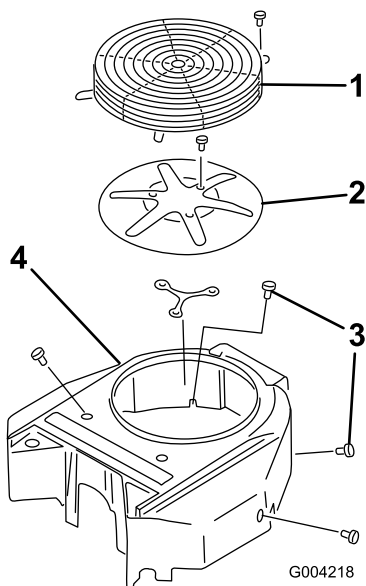

Figure 46
3. Remove the air intake screen, recoil starter and fan housing (Figure 46).
5. Install air intake screen, recoil starter and fan housing (Figure 46).